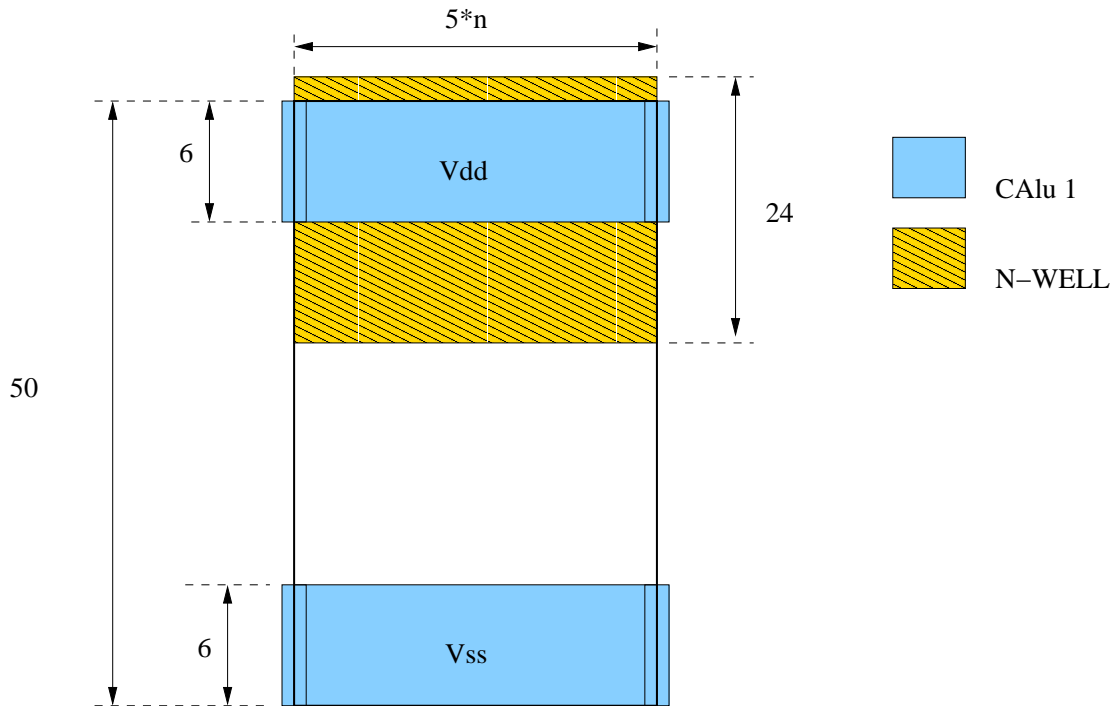

Figure 4: a cell model of the sxlib library
- draw the cell under **GRAAL** by respecting the gauge specified on the figure 4.
- draw the cell under **GRAAL** by respecting the gauge specified on the figure 4. You will use for that the instantiated function of **GRAAL**. The cell with instantiate is of course the inverter, which you will connect (will routing) manually.